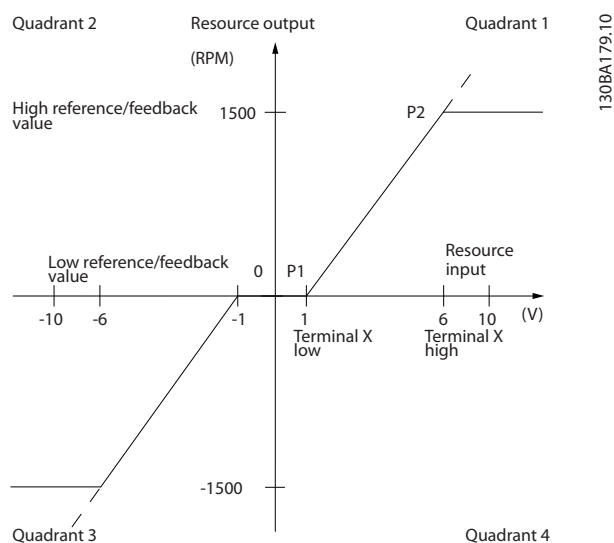

Figure 2.28 Dead Band
- Either minimum reference value (see Table 2.9 for relevant parameter) or maximum reference value must be 0. In other words, either P1 or P2 must be on the X-axis in Figure 2.28.
The size of the dead band is defined by either P1 or P2 as shown in Figure 2.28.